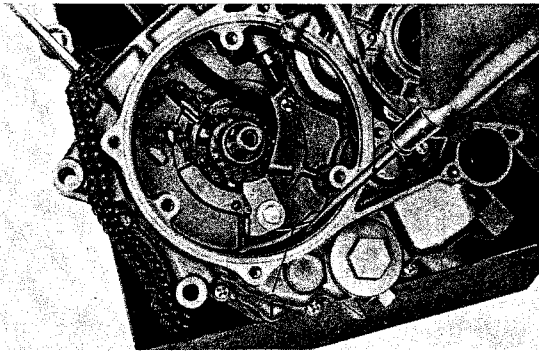

Fig. 79 Cam chain tensioner installation
- 2) Assemble cam chain tensioner on the tensioner arm pin, hook the spring on the arm, and then install the tensioner arm adjusting bolt. (Fig. 79)